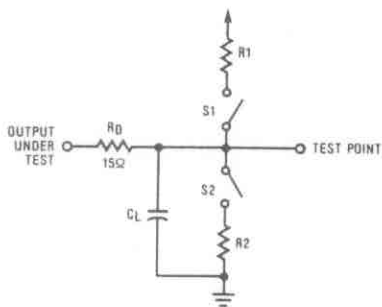

FIGURE 11. Output Load Circuit
**Switching Characteristics: DP8409-2** VCC = 5.0V ± 5%, 0°C ≤ TA ≤ 70°C unless otherwise noted (Notes 2, 4, 5). The output load capacitance is typical for 4 banks of 22 DRAMs each or 88 DRAMs including trace capacitance. These values are: Q0-Q8, CL = 500 pF; RAS0-RAS3, CL = 150 pF; WE, CL = 500 pF; CAS, CL = 600 pF, unless otherwise noted. See Figure 11 for test load. Switches S1 and S2 are closed unless otherwise noted, and R1 and R2 are 4.7kΩ unless otherwise noted.